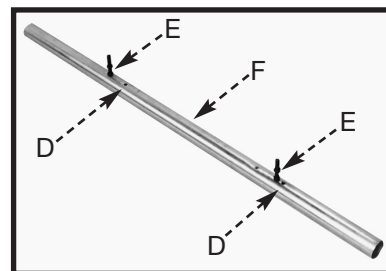

Fig. 6
5. Move the studs (E) Fig. 6 on the lower guide rail (F) to the holes (D) in the guide rail. Holes should be 20-1/4" apart.